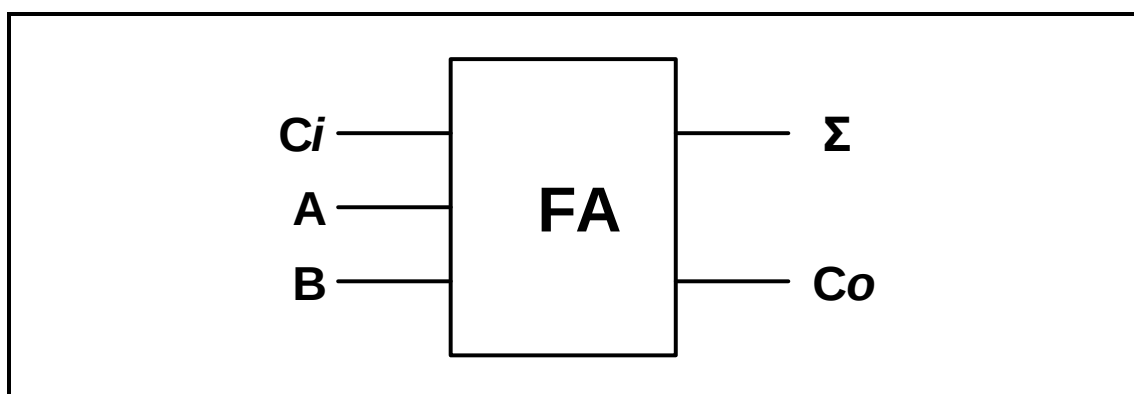

FIGURE 5.3: BLOCK DIAGRAM OF A FULL ADDER
5.3 Refer to FIGURE 5.3 below, which is a block diagram of a full adder, and complete the logic circuit of a full adder using AND gates, exclusive OR gates and an OR gate on the ANSWER SHEET for QUESTION 5.3